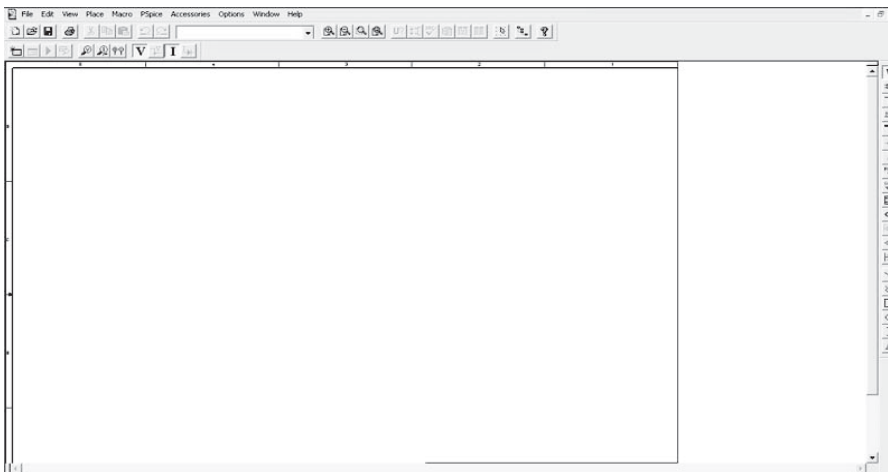

FIGURE 2.62 PSpice schematic window.
5. Next, the main PSpice schematic circuit board window will appear (as shown in Figure 2.62). Circuits can be easily created in this board.